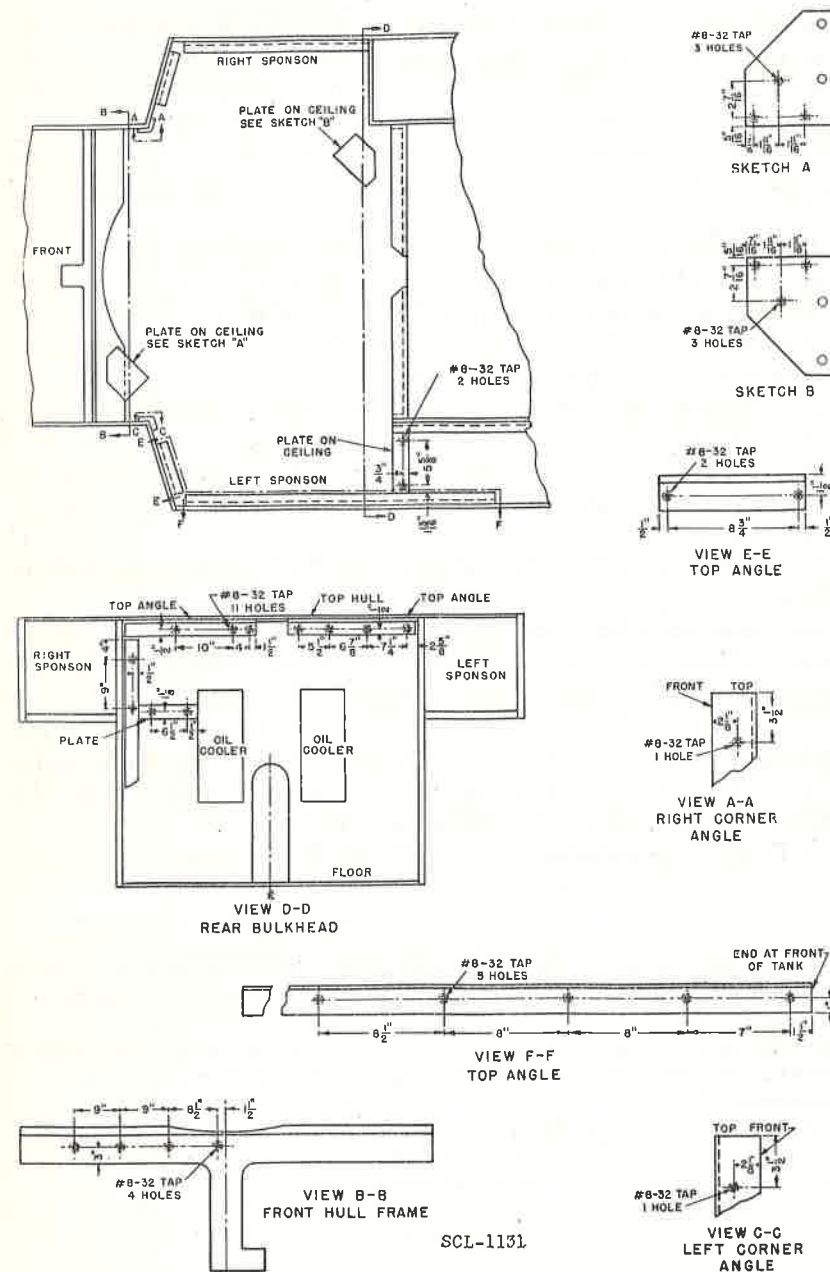

FIGURE 6.—Mounting holes and location for interphone equipment in light tank M2A4.
6. *Installation.*—a. *Drilling data.*—Light tank M1A1 comes with all the necessary mounting holes, but light tank M2A4 does not. Figure 6 gives the drilling details for light tank M2A4.
(6) *Mounting plates for control boxes BC-422 (light tank M2A4 only).*—Remove the two 3/8-inch nuts and plate. Drill and tap three holes per figure 6. Jacks should face center of tank.